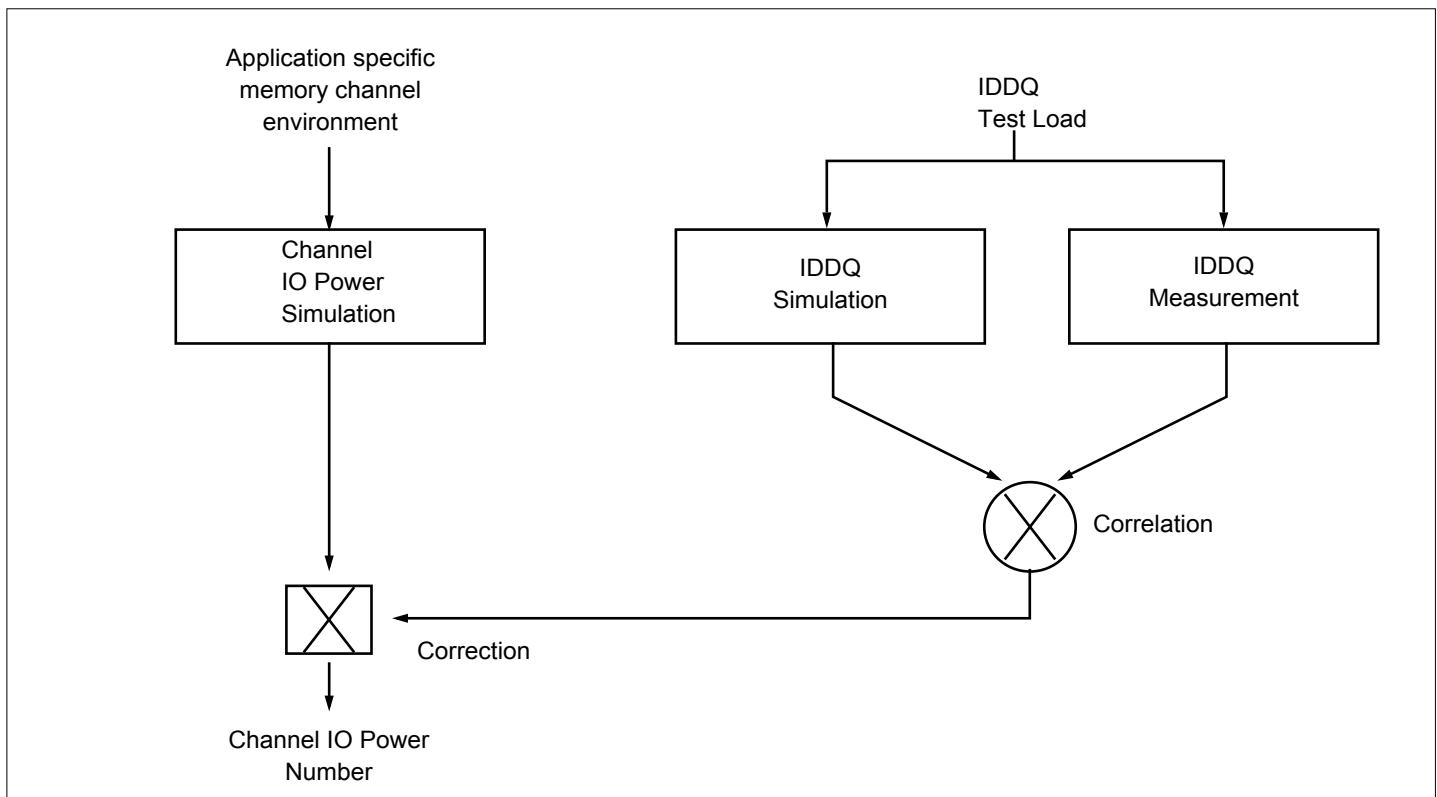

Figure 20. Correlation from simulated Channel IO Power to actual Channel IO Power supported by IDDQ Measurement.
**Attention :** IDDQ values cannot be directly used to calculate IO power of the DDR3 SDRAM. They can be used to support correlation of simulated IO power to actual IO power as outlined in Figure 20. In DRAM module application, IDDQ cannot be measured separately since VDD and VDDQ are using one merged-power layer in Module PCB.